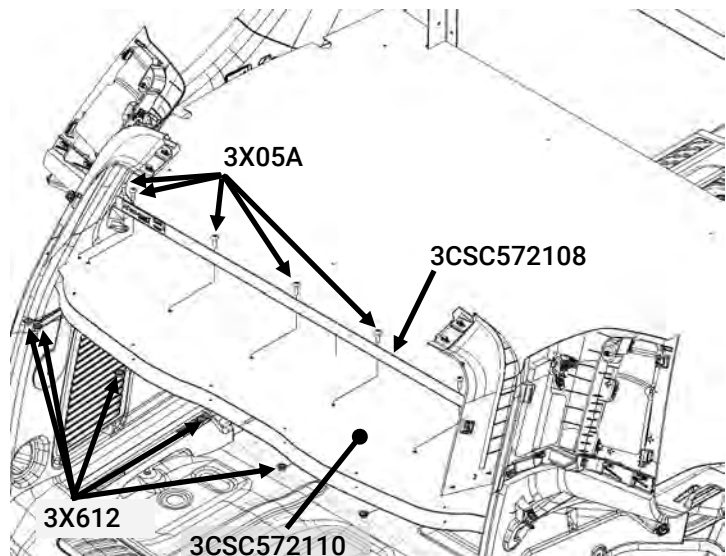

Figure 12
- A. Place the rubber mat [3CSC572110] over the panels and align with panel holes. Use the (6) push-in plastic rivets [3X246] to secure (Fig 12).
- B. Slide in and align the (8) holes in the Top Bar Assembly [3CSC572108] with the corresponding holes in the cargo cover panel, support brackets and rear crossmember.
- C. Fasten the (8) [3X05A] screws through the top, into the (8) [3X612] serrated nuts.